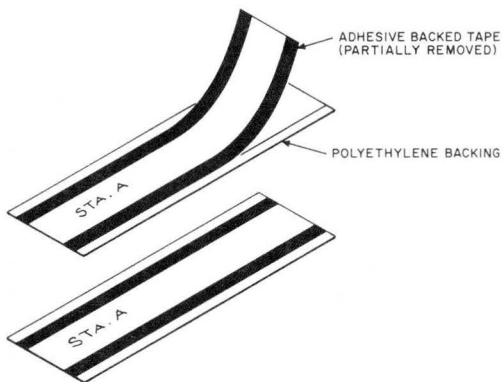

Fig. 1—E-5826 Write-On Identification Tag
2. E-5826 IDENTIFICATION TAG (FIG. 1)